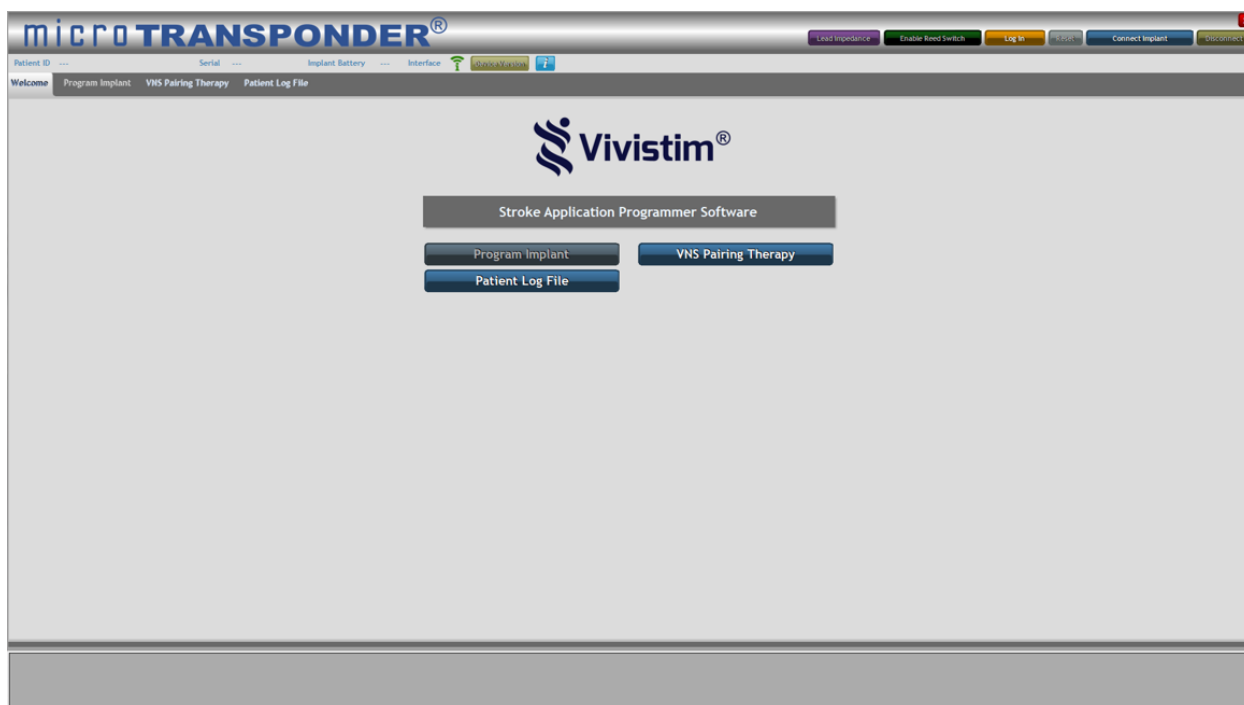
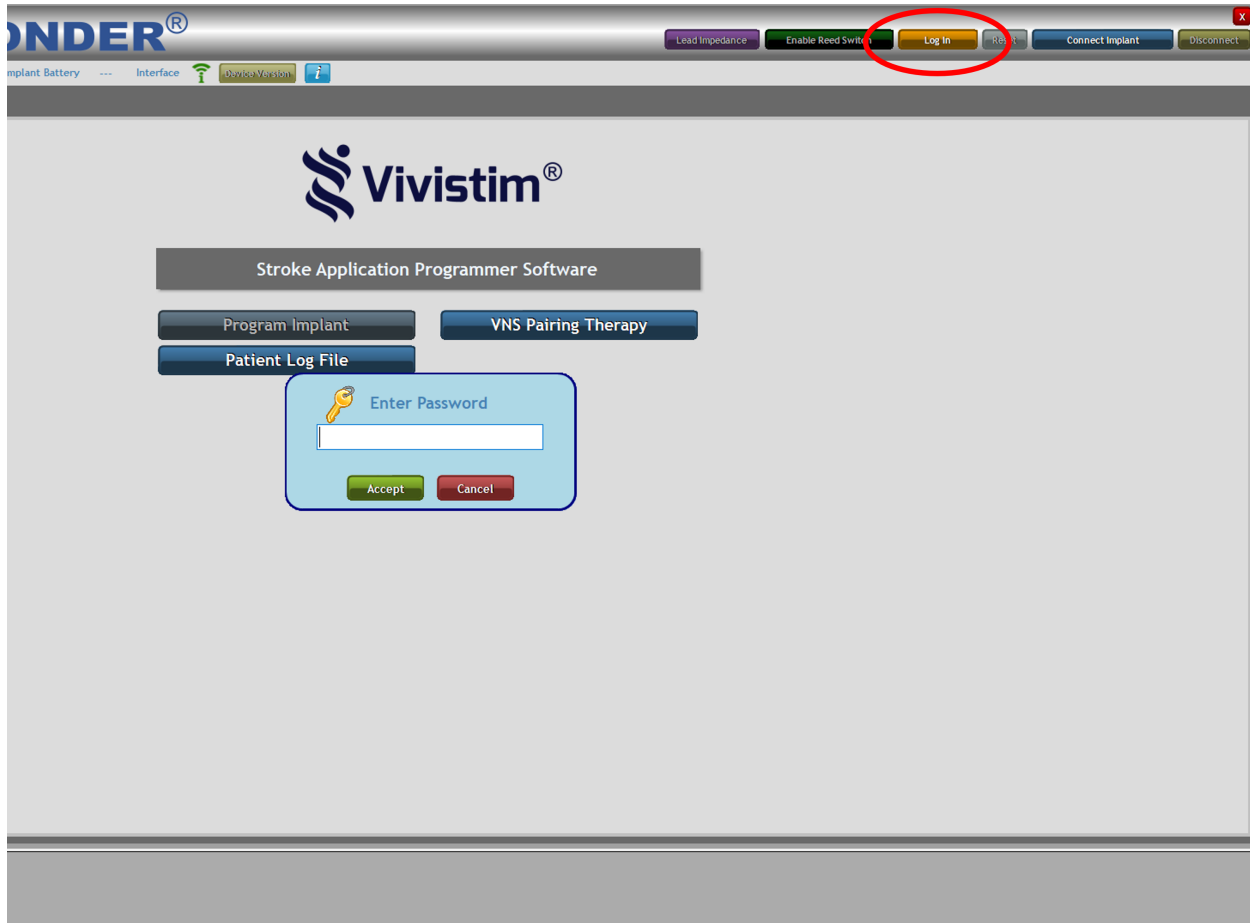

Figure 2.2: Startup Menu Screen—Welcome Menu
Figure 3.1: Log In
4. The SAPS loaded onto the laptop will then launch to the Startup Menu Screen (**Welcome** menu) (see Figure 2.2). Before proceeding to the next section, ensure that you have arrived at this Startup Menu Screen.
Unless a **Log In** has been performed by entering the appropriate password, the only buttons enabled in the **Welcome** menu are the **Patient Log File** and **VNS Pairing Therapy** buttons (see Figure 2.2). These buttons allow the physician or therapist to assign a task and perform a therapy session. To access the rest of the program features, the **Log In** button must be selected (see Figure 3.1).
To log in and access all other SAPS screens, select the **Log In** button (upper right menu bar, 4th button from the right) and type the password provided into the pop-up shown in Figure 3.1.